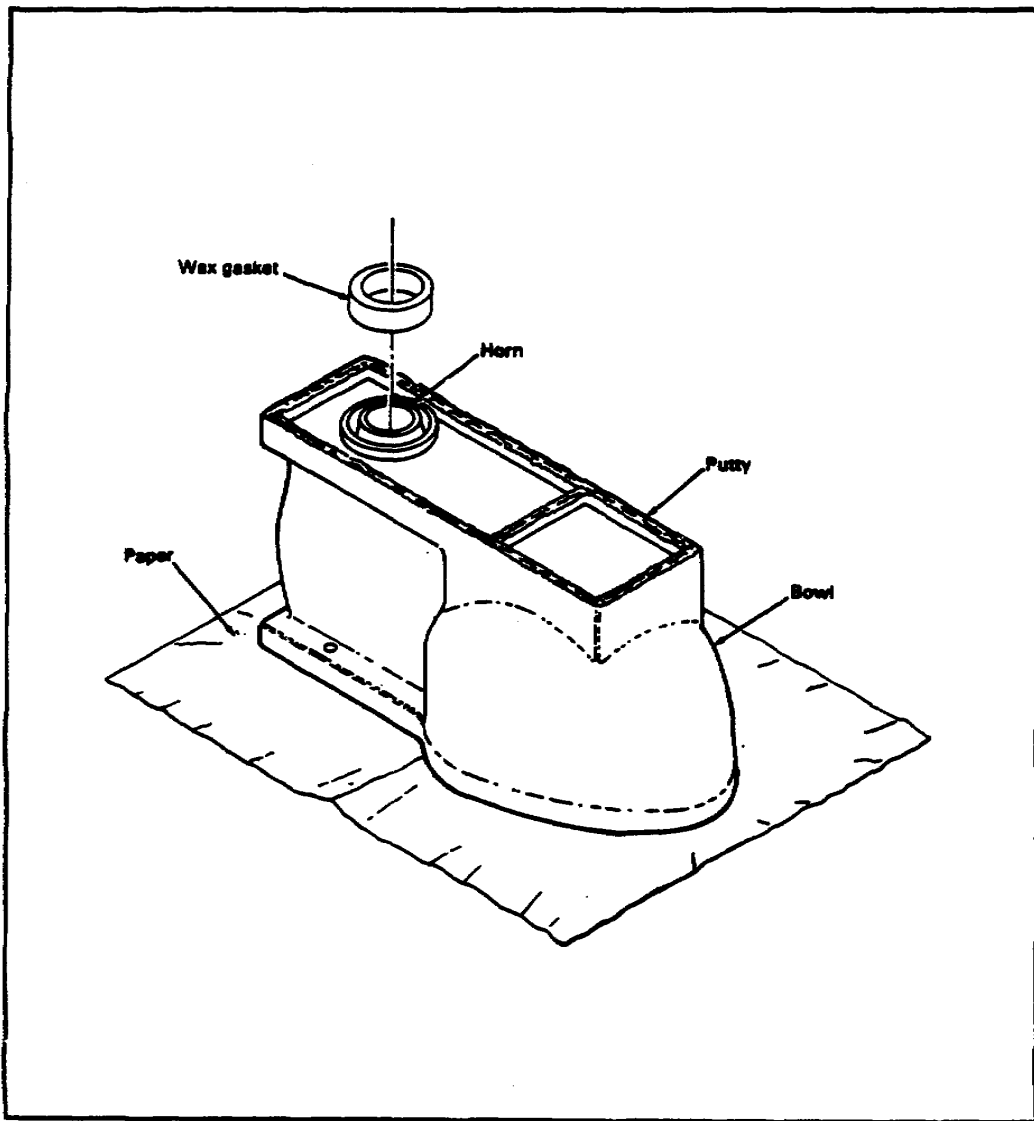

FIGURE 21. PREPARING CLOSET BOWL FOR INSTALLATION
**Preparing a water closet bowl for installation.** Use the following steps to prepare the bowl for installation (see Figure 21):